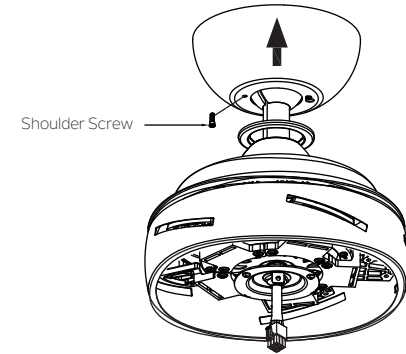

Fig. 14
Step 1. Assemble canopy by rotating key slot in canopy over shoulder screw in mounting bracket. Tighten shoulder screw. Fully assemble and tighten second shoulder screw that was previously removed. (Fig. 14)